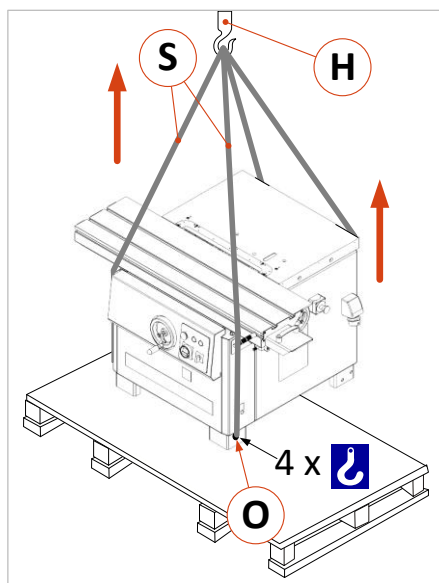

Figure 11: Lifting and parking with a crane
- Prepare four lashing straps or transport ropes (**S**) with the required load capacity and in sufficient length and hang them on the crane hook (**H**) as shown in ⇒ Figure 11.